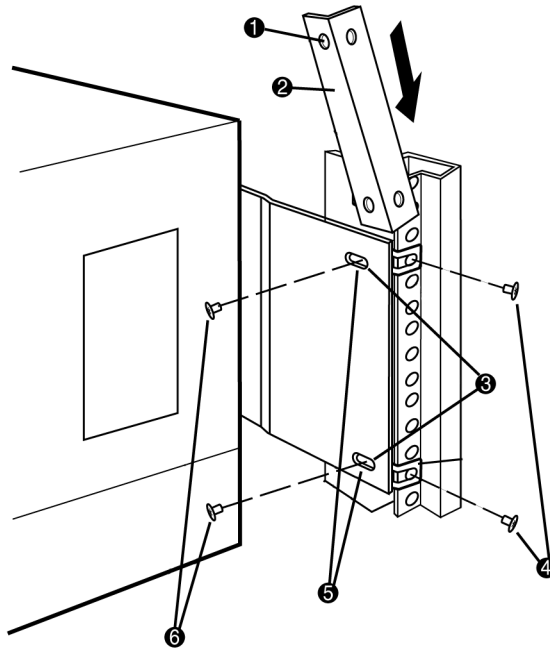

Figure 25: Securing the switch to the rack
2. Mount the switch in the rack, as shown in Figure 25:
- a. On one side at the back of the switch, position an angle bracket (②) so that the threaded holes (①) are against the slots (⑤) of the rear mounting bracket and the angled side face out.
- b. Insert the screws (⑥) through the rear mounting bracket slots into the threaded nuts of the angle bracket.
- c. Insert a second set of screws (④) through the angle bracket and the rail column into the sheet metal nuts on the back rail (③).